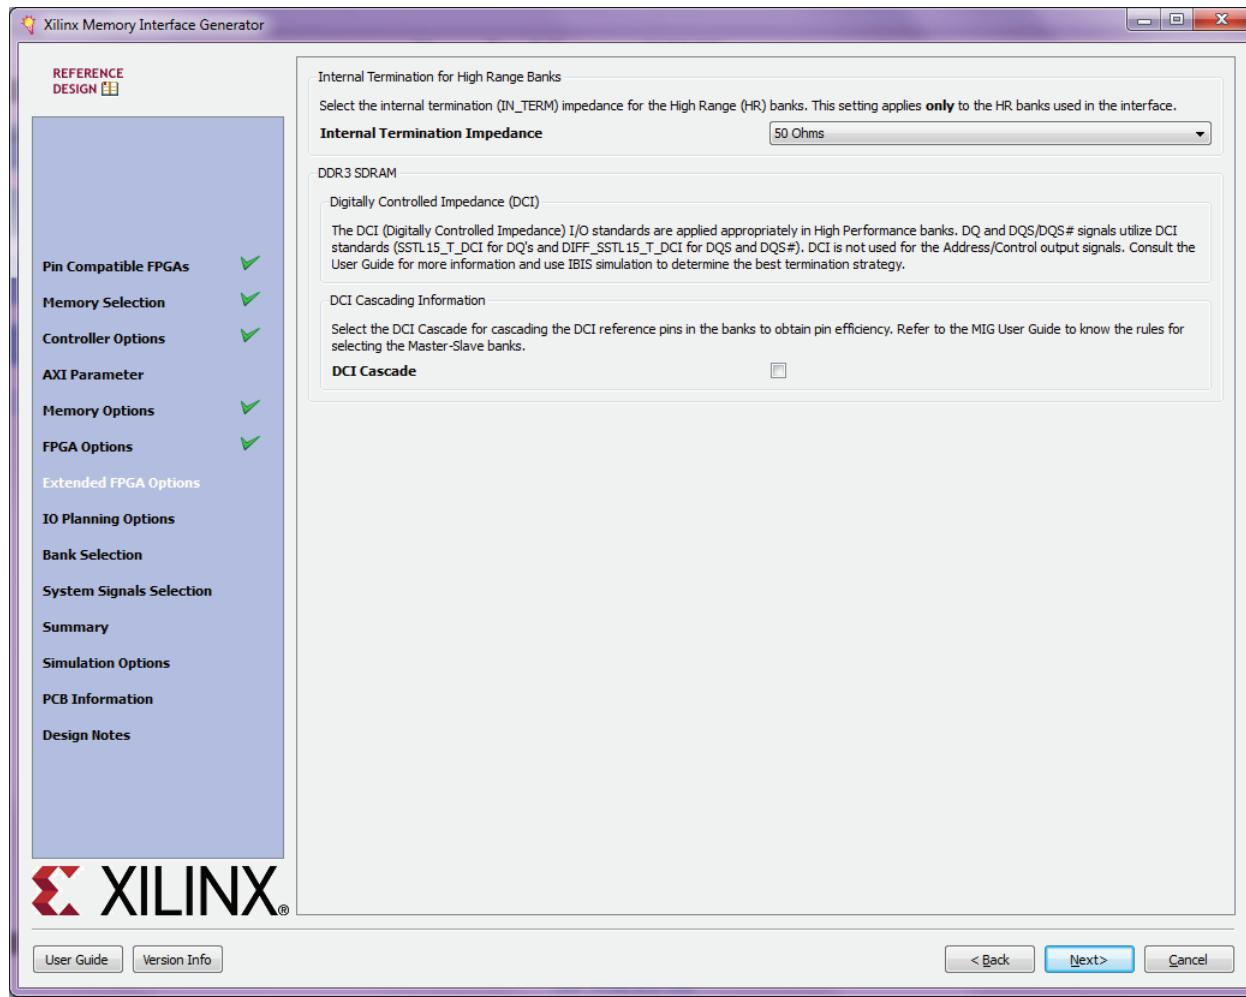

Figure 1-16: **FPGA Options**
Figure 1-16 shows the FPGA Options page.
- **sys\_clk** – This is the system clock input for the memory interface and is typically connected to a low-jitter external clock source. Either a single input or a differential pair can be selected based on the System Clock selection in the FPGA Options page (Figure 1-16). The sys\_clk input must be in the same column as the memory interface. If this pin is connected in the same banks as the memory interface, the MIG tool selects an I/O standard compatible with the interface, such as DIFF\_SSTL15 or SSTL15. If sys\_clk is not connected in a memory interface bank, the MIG tool selects an appropriate standard such as LVCMOS18 or LVDS. The UCF can be modified as desired after generation.
- **clk\_ref** – This is the reference frequency input for the IDELAY control. This is a 200 MHz input. The clk\_ref input can be generated internally or connected to an external source. A single input or a differential pair can be selected based on the System Clock selection in the FPGA Options page (Figure 1-16). The I/O standard is selected in a similar way as sys\_clk.
- **sys\_rst** – This is the system reset input that can be generated internally or driven from a pin. The MIG tool selects an appropriate I/O standard for the input such as LVCMOS18 and LVCMOS25 for HP and HR banks, respectively. Default polarity of **sys\_rst** pin is active-Low. Polarity of **sys\_rst** pin varies based on "System Reset Polarity" option chosen in **FPGA Options** page (Figure 1-16).